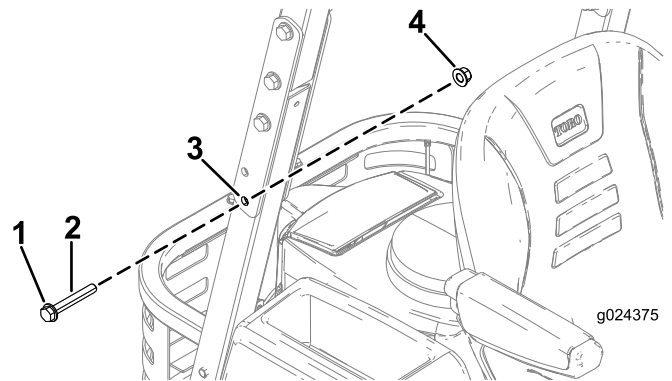

**Figure 4**
4. Remove the bolts (1/2 x 3 inches), washers, and nuts from the fourth hole in the ROPS plate (Figure 4).